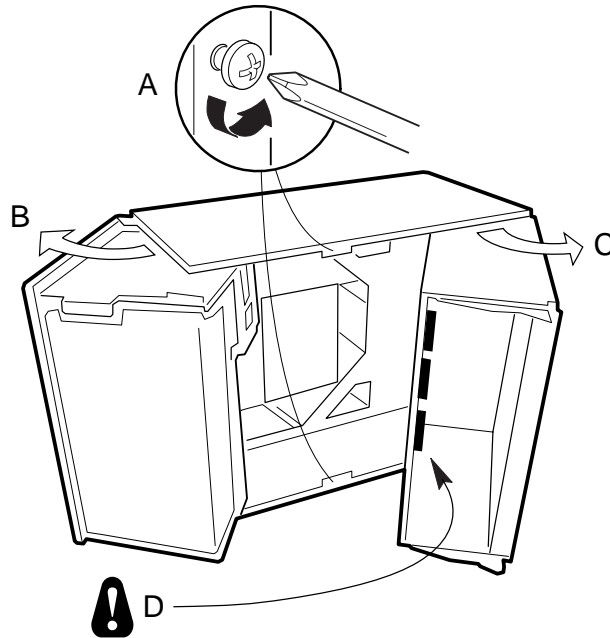

Figure 2: Opening the Subchassis and Electronics Bay
You must disconnect all cabling to the electronics bay before rotating/removing the bay. Failure to do so can result in serious damage to system components. The location of the main connectors in the electronics bay is marked as D in Figure 2.
- Loosen the two screws on the top and bottom edges of the chassis (A in Figure 2). These screws attach the front subchassis and the electronics bay to the main chassis.
- Using the edges of the subchassis as handles, rotate the front subchassis left, away from the main chassis, until it stops (B in Figure 2).
- Disconnect all cabling to the electronics bay (D in Figure 2).
- Using the vertical edge of the electronics bay as a handle, rotate the bay right, away from the main chassis, until it stops (C in Figure 2).